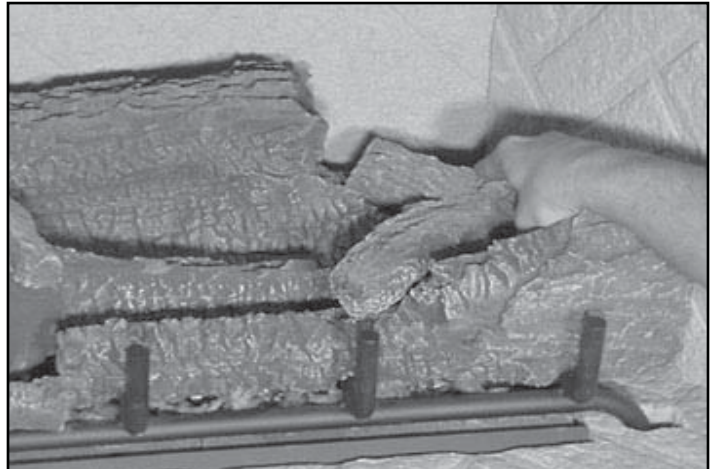

Figure 12.6 Set Right Center Log
- Place RIGHT CENTER LOG on the white notches in the left center log and the back log. The log should sit on the log tab welded to the back of the far right grate bar. The long leg of the "Y" in the log should point towards the front center of the log set. See Figure 12.6.